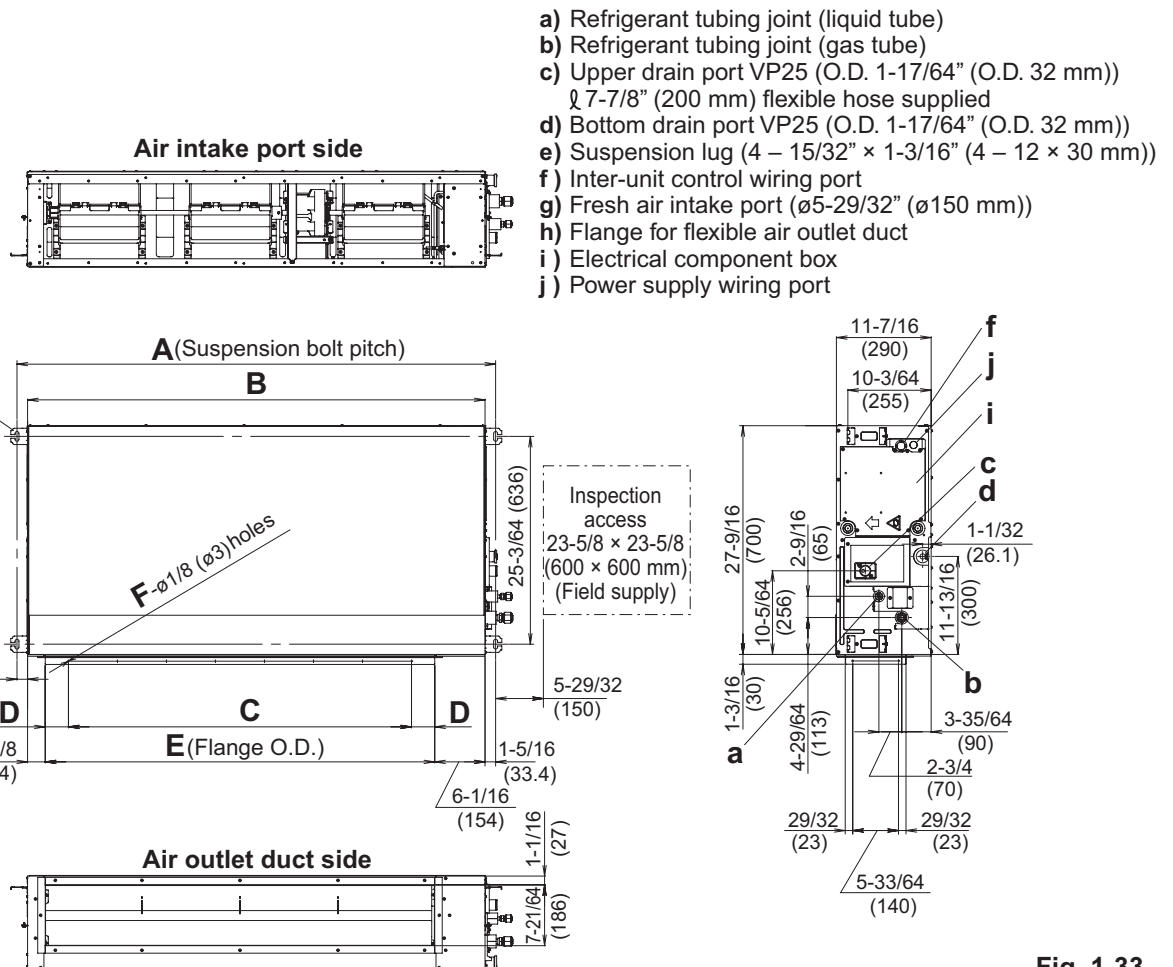

Fig. 1-33
- The detailed dimensions of the indoor unit is shown in Fig. 1-33 and Table 1-7.